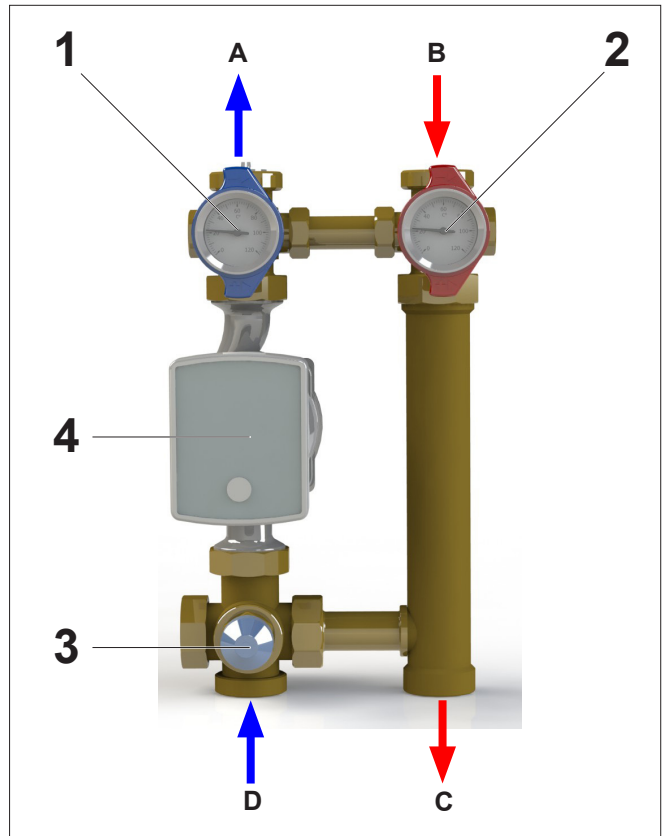

Fig. 1: List of components
- Close the supply and return lines (system connections, see Fig. 1 on page 7).